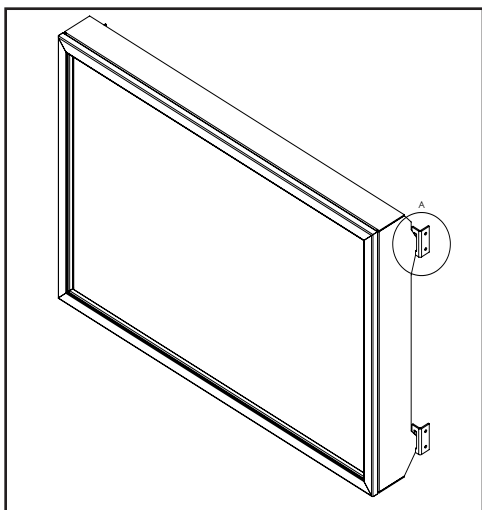

Figure 38: Installing Safety Screen onto Cabinet Bracket (Parts removed for clarity)
To install the safety screen hold it upright in front of the fireplace with four (4) hooks pointing towards the fireplace. Slide the hooks into the corresponding brackets on each side of the cabinet (see figures 38 and 39). Ensure the hooks are secure to confirm correct installation. To remove the safety screen unhook it from the brackets by lifting up and out.